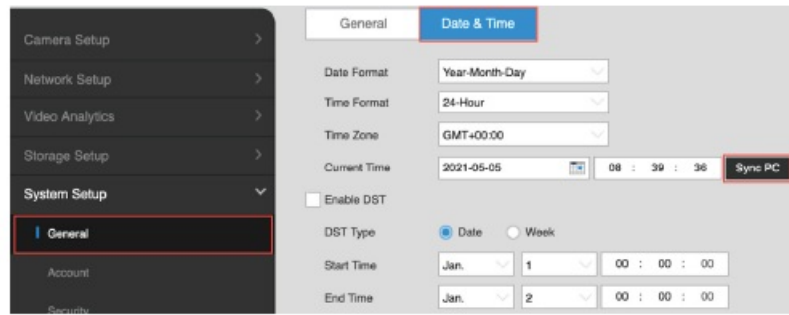

Fig. 3.7
- Select “System Setup” from the sidebar menu and then “General” (from the sidebar menu). See Fig. 3.7.